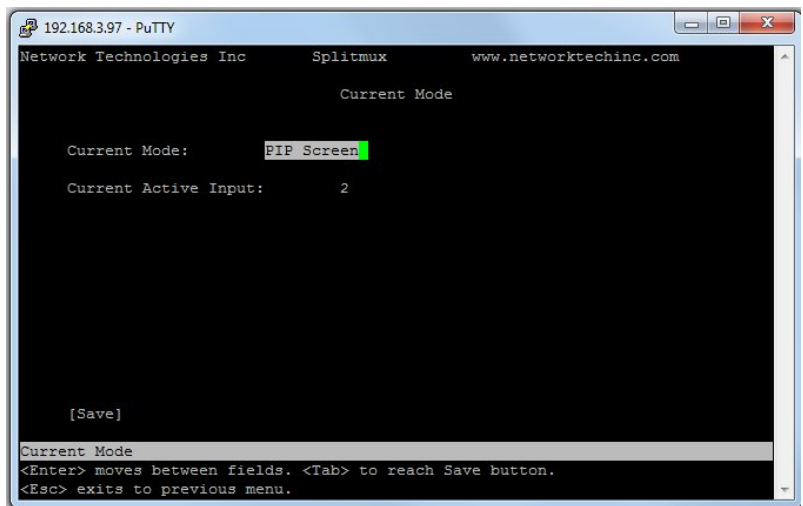

Figure 31- Text Menu-Current Mode Selection
- To move from menu list to action key (such as “Save” in Figure 31), press <Tab>.